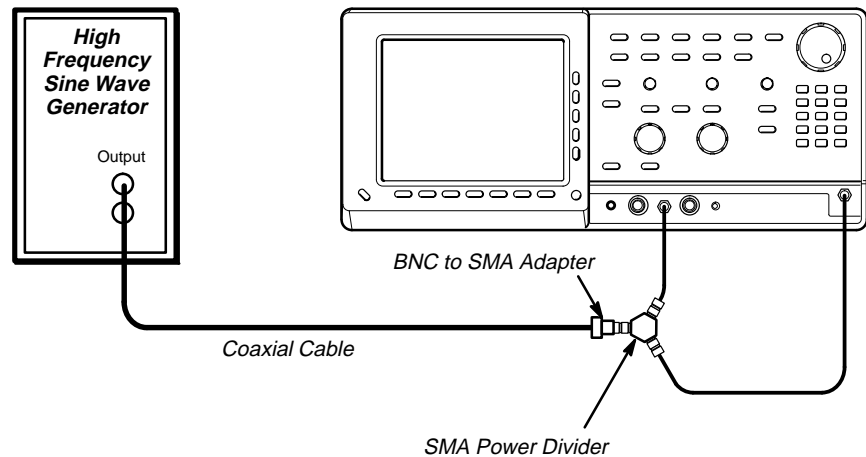

Figure 1-21: Initial Test Hookup
- Connect the other output of the power divider through a second SMA cable to the **EXT TRIGGER INPUT**. See Figure 1-21.